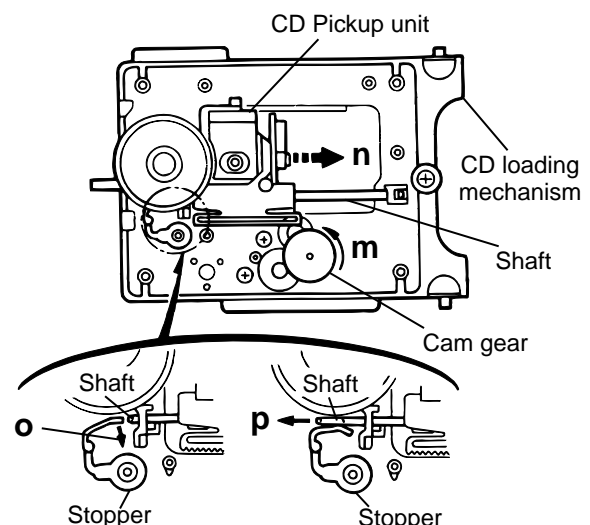

Fig.13
**■ Removing the CD pickup unit (See Fig.13 )**